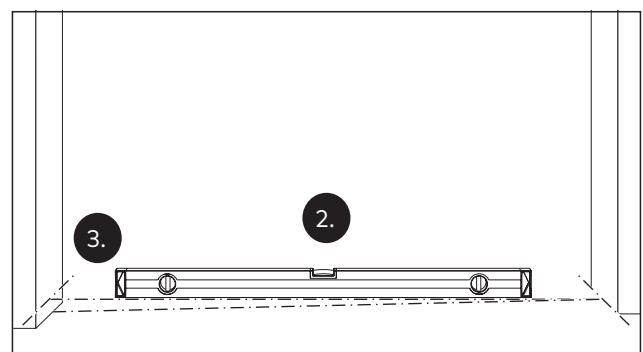

Fig. 14 Determining the highest point in the area of movement
2. Determine the highest point of the floor in the area of movement of the leaves using a leveling device (Fig. 14).
3. Transfer the highest point of the floor to the wall (Fig. 14).